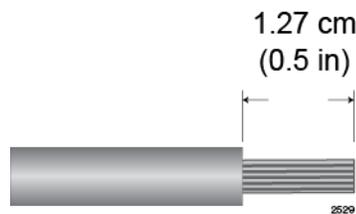

Figure 120. Stripping the Power Wires
1. Prepare adequate lengths of two stranded 8 AWG power wires by stripping them as shown in Figure 120.